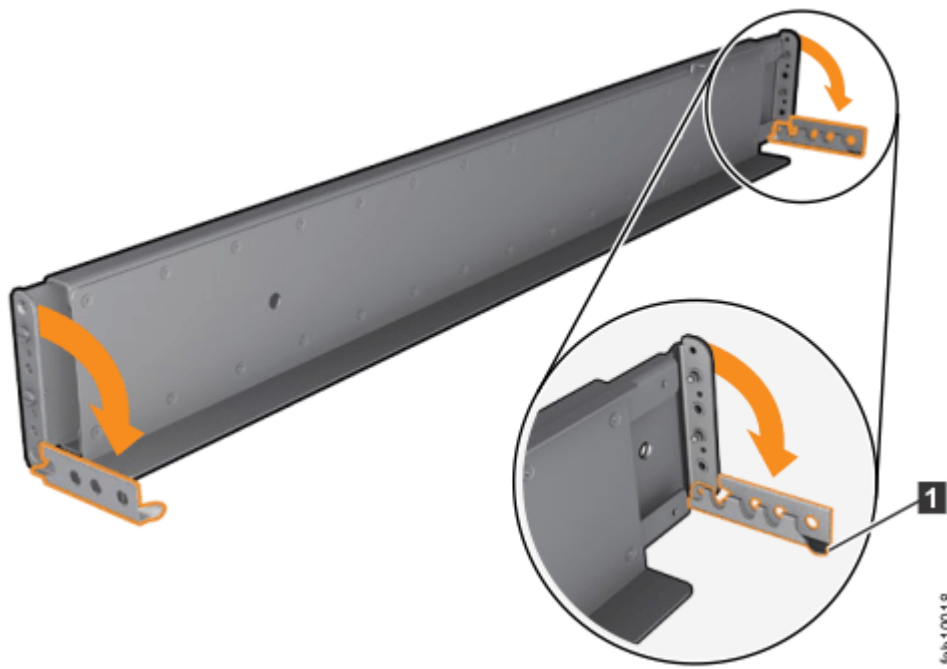

Figure 38. Opening the hinge brackets
6. At each end of the rail, grasp the tab **1** and pull *firmly* to open the hinge bracket (see Figure 38 on page 34).